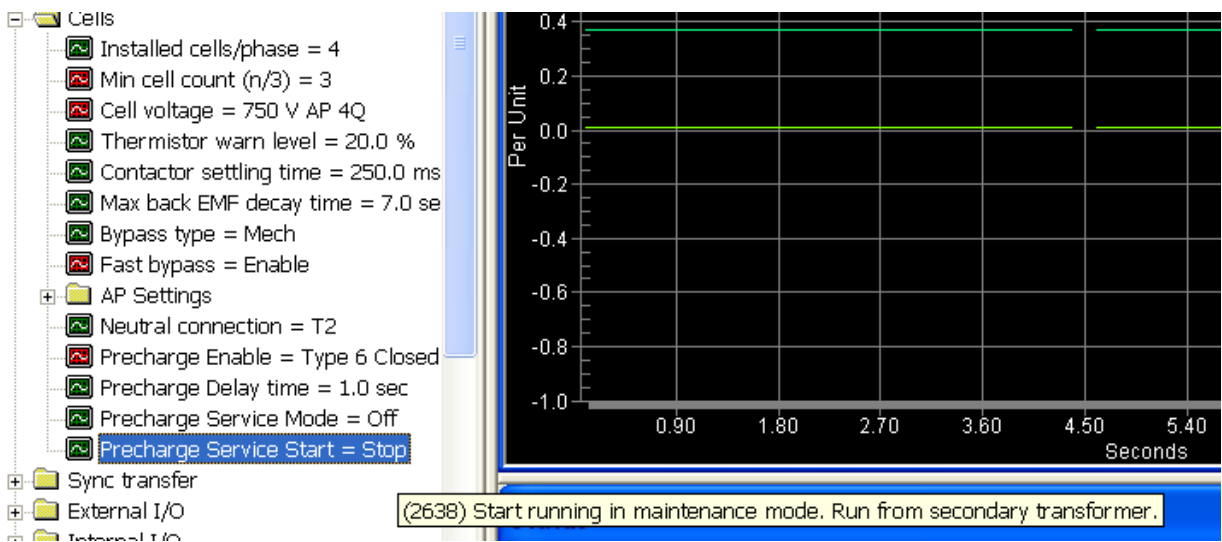

Figure 5-47: Starting Precharge Service Mode
2. Start the sequence by using the Precharge Service Start (ID 2638) parameter (see Figure 5-47). If precharge completes when using this mode, the start menu will automatically return to stop. Selecting Stop before precharge is complete will abort the precharge with a fault.